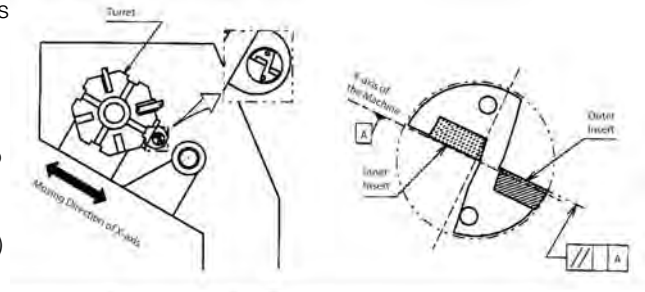
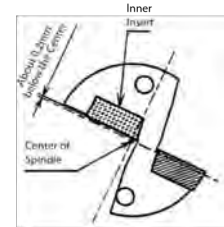

Fig.1 Installation to the Turning Lathe
Fig. 5 Front View of the Drill
- ① The top face of the outer insert should be parallel to the X-axis to allow for offset cutting.
- ② It is recommended to set the outer insert as shown in Fig. 1 with the outer insert facing the operator. (It is also possible to use it by setting 180° reverse position.) In case of the lathe with two turrets, when installing the drill to the lower turret, the outer insert should be set so as to face the operator. (It is also possible to use it by setting at 180° reverse position)
When installing inner insert as shown in Fig. 1, it will be set around 0.2mm (.008") below the Center line of the Spindle. (Fig. 5) This is the normal position of the center height and the inner insert is designed to be set at this position. However, in case that the turret of the lathe is out of alignment, sometimes the inner insert may be above, or excessively below the center. For stable machining, it is essential to check the center height of the inner insert carefully.